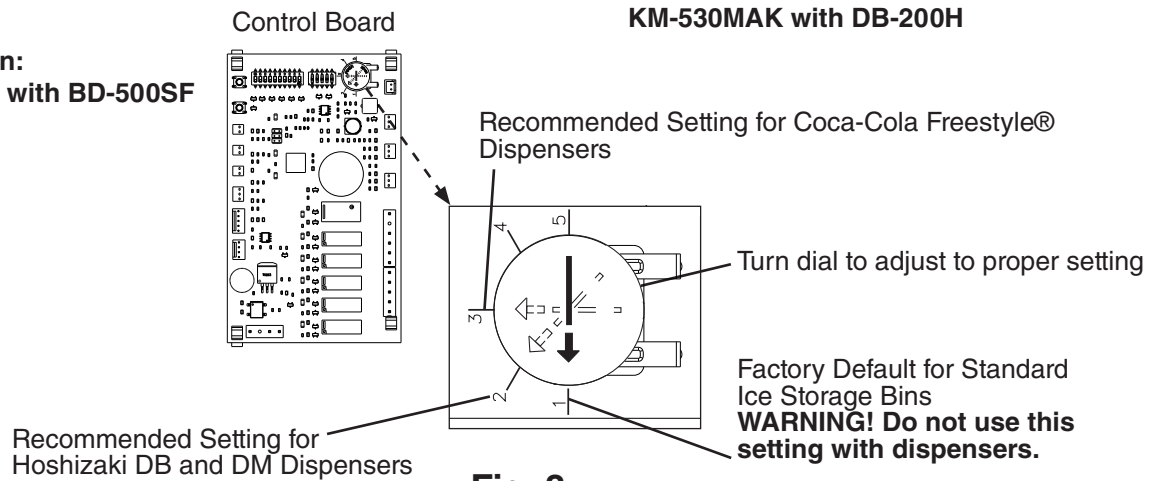

Fig. 8
b) **KM-330_530_730MAK, KM-930MAK2, and KM-1130MAK2.** See Fig. 8.